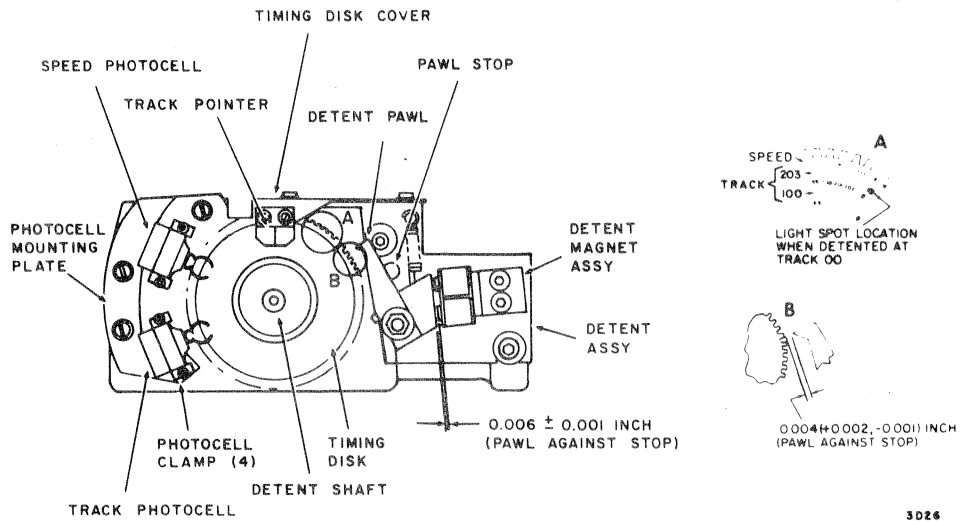

Figure 6-6. Detent Subassembly
4. Note or tag the two leadwires connected to the applicable phototransistor plate (Figure 6-6) and disconnect them.
4. Separate the timing disk cover from the carriage mount by removing the two screws and washers (Figure 6-6).
5. Remove the three screws securing the photocell mounting plate and carefully slide the photocells away from the center of the timing disk until they are clear of the detent gear teeth (Figure 6-6).